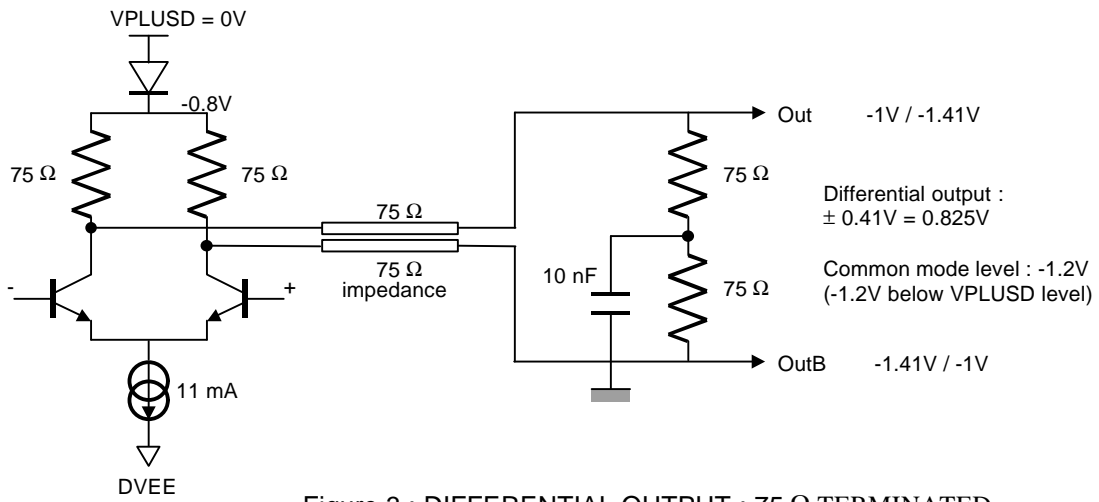

Figure 3 : DIFFERENTIAL OUTPUT : 75 Ω TERMINATED
The JTS8388B differential output buffers are internally 75 ohms loaded. The 75 ohms resistors are connected to the digital ground pins through a -0.8V level shift diode (see Figures 3,4,5 on next page).
1) 75 Ohms impedance transmission lines, 75 ohms differentially terminated (Fig. 3) :